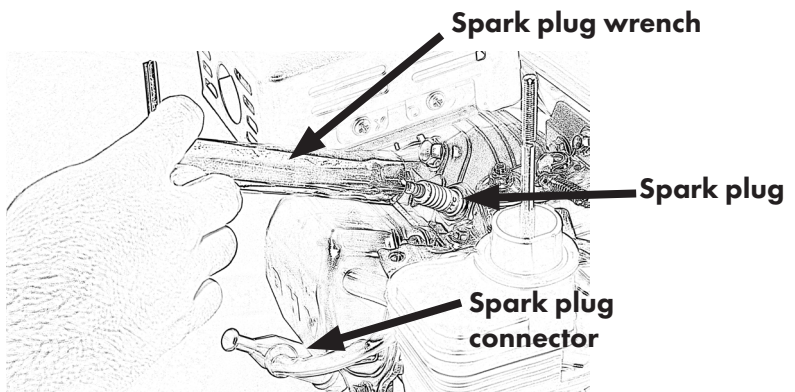

Figure 24
- Remove the spark plug cap and loosen the spark plug using the spark plug wrench, Fig. 24.